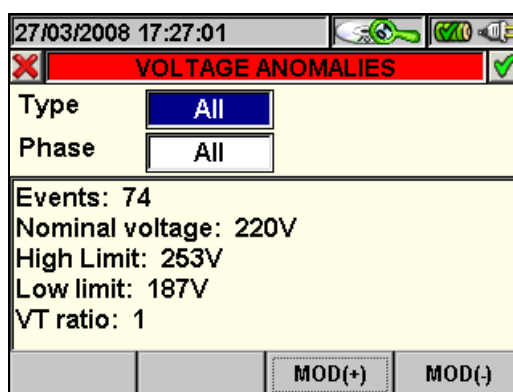

Fig. 95: Voltage Anomalies
- The **F2** key (or the **PARAM** item on the display) accesses the page showing the settings for voltage anomalies (Fig. 95).